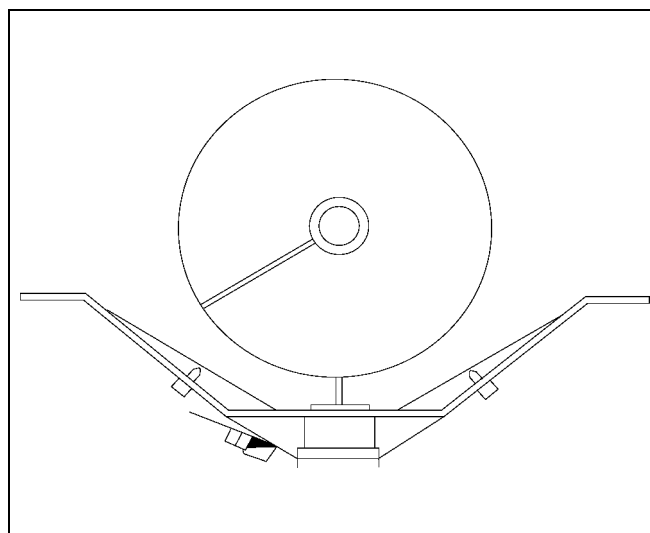

Figure 3H
6. Mount the sensor in the trough such that the grain will flow over the sensor blade per the decals on the sensor assembly. Make sure that the sensor block fits securely in the rectangular hole. Secure the sensor assembly by modifying the worm gear clamps and screwing the ends to the sides of the trough. (See Figure 3H.) Fasten the grounding strap from the sensor to the trough in the area that the flighting has been removed with a self-drilling screw. Leave at least 2" between the sensor block and the grounding screw.